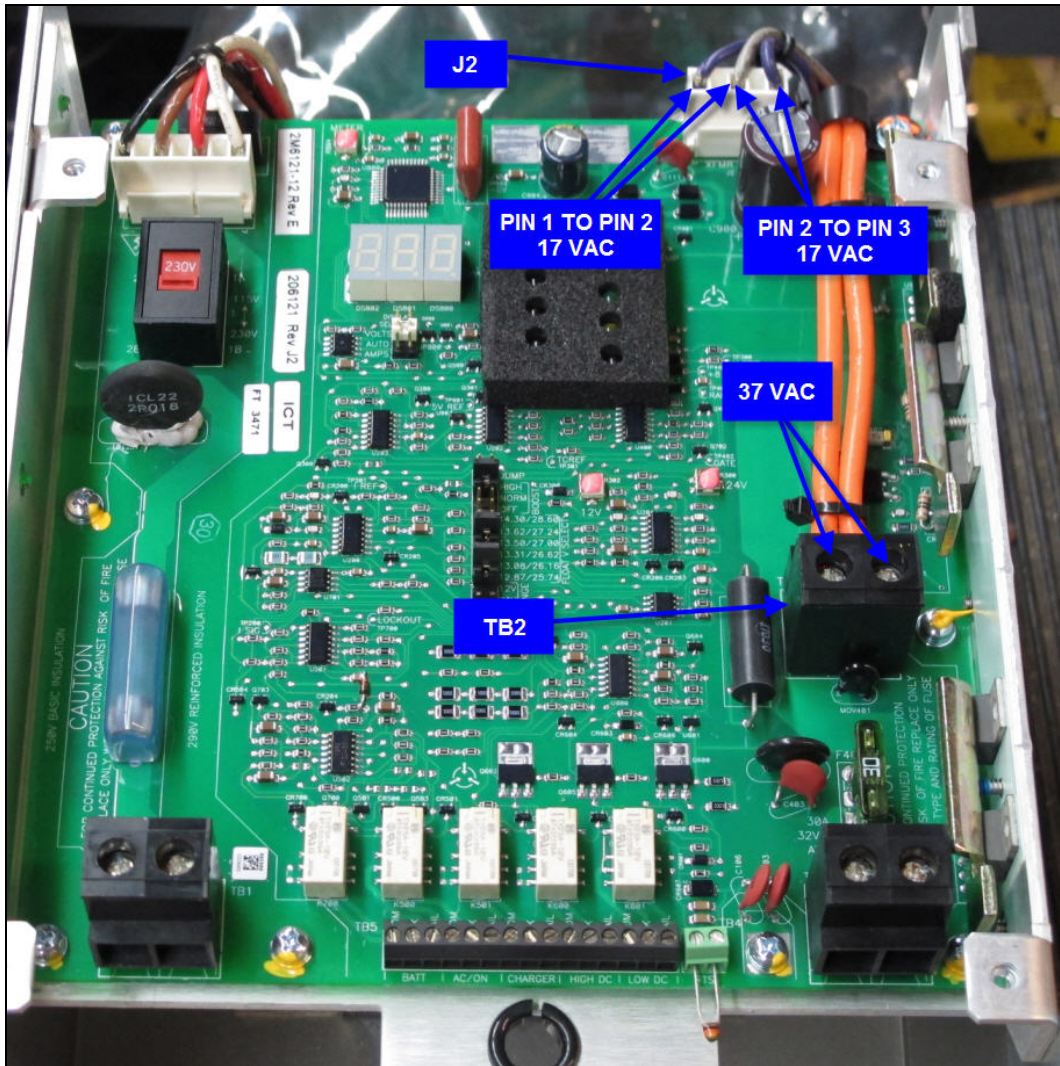

Figure 3
4. AC Fail Possible Cause 4: Transformer failure (see Figure 3)